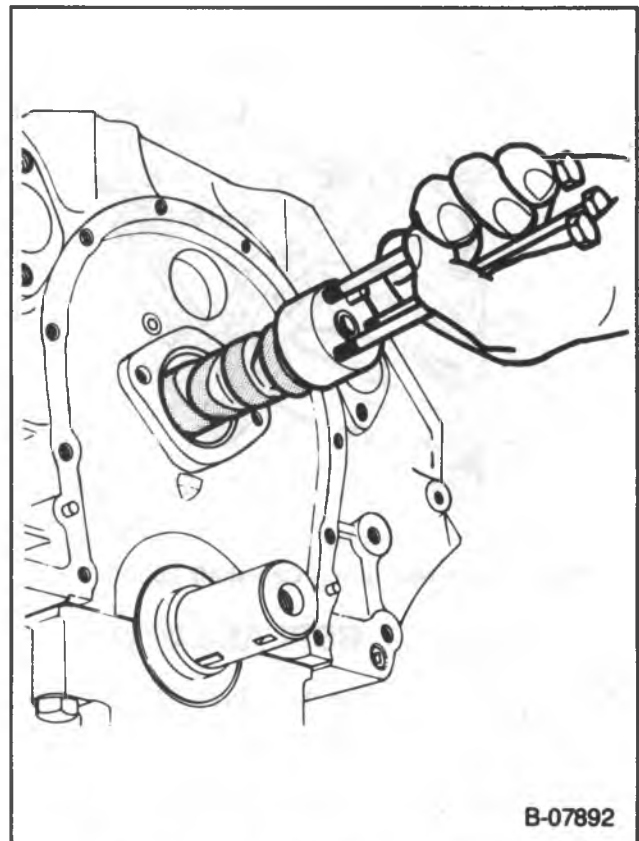

Figure 26 — Replacing the Camshaft
- Install two or three 5/16-18 bolts 100-125 mm (4-5 inches) long into the camshaft threaded holes. Use these bolts to handle the camshaft (figure 26).
2. Camshaft to the engine (figure 26). Handle the camshaft carefully to prevent damage to the camshaft bearings.